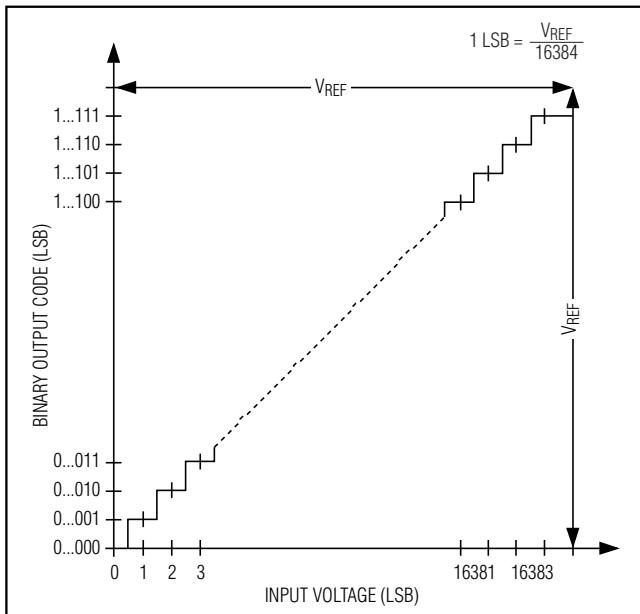
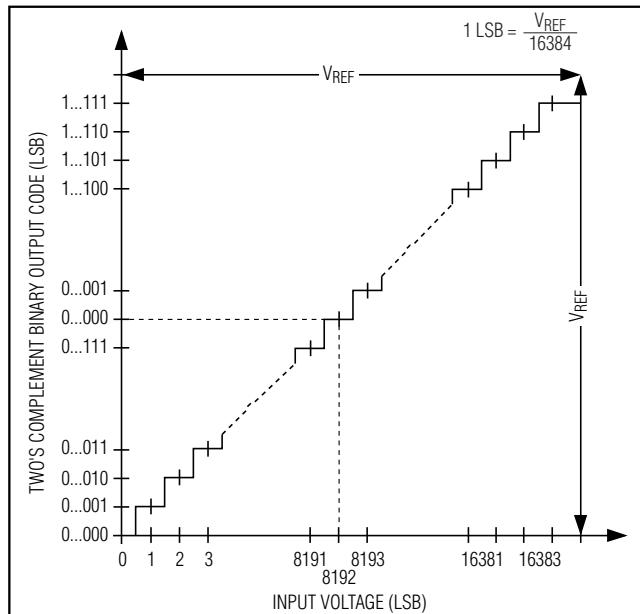

Figure 14. Unipolar Transfer Function
Figure 15. Bipolar Transfer Function
In unipolar input mode, the digital output is straight binary (Figure 14). For bipolar input mode, the digital output is two's complement binary (Figure 15). Data is clocked out on the falling edge of SCLK in MSB-first format.
Output data coding for the MAX1146–MAX1149 is binary in unipolar mode and two's complement binary in bipolar mode with  $1 \text{ LSB} = (V_{REF}/2^N)$ , where  $N$  is the number of bits (14). Code transitions occur halfway between successive-integer LSB values. Figure 14 and Figure 15 show the input/output (I/O) transfer functions for unipolar and bipolar operations, respectively.